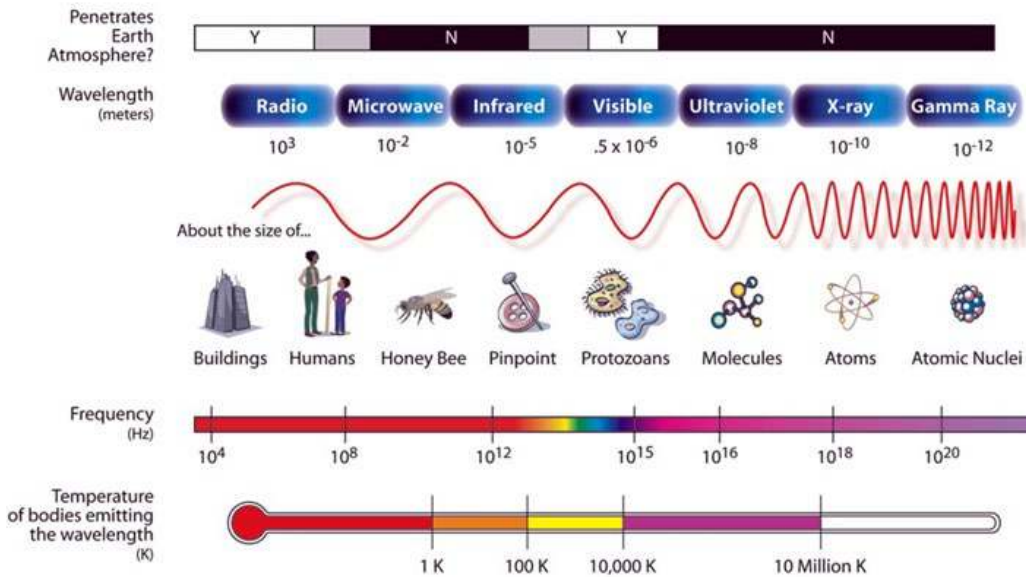

Figure 1. The Electromagnetic Spectrum
Color is reflected light, and light is electromagnetic (EM) energy. Light can come from the sun or another source like a light bulb. The human eye can only see a small portion of all the energy there is to see. You may be familiar with most of the EM spectrum, like microwaves, radio waves and x-rays (See figure 1).